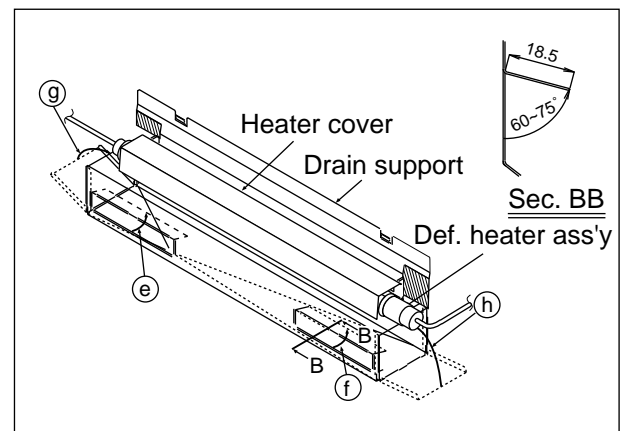

Fig. A-32
9. Bend (e), (f), (g) and (h) Drain support 2 as shown in Fig. A-32.